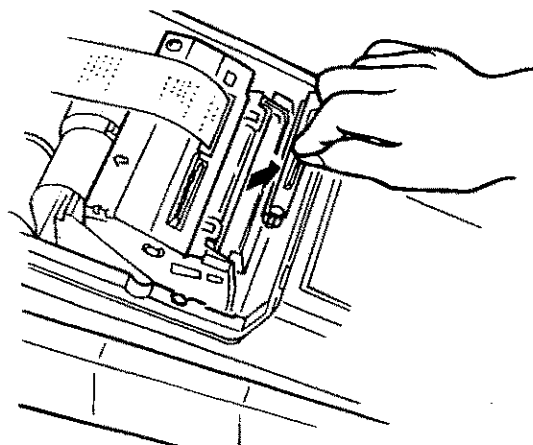

Fig.1
2. Grab the plastic ears on the ink roller and lift it up. (See Fig.1.)